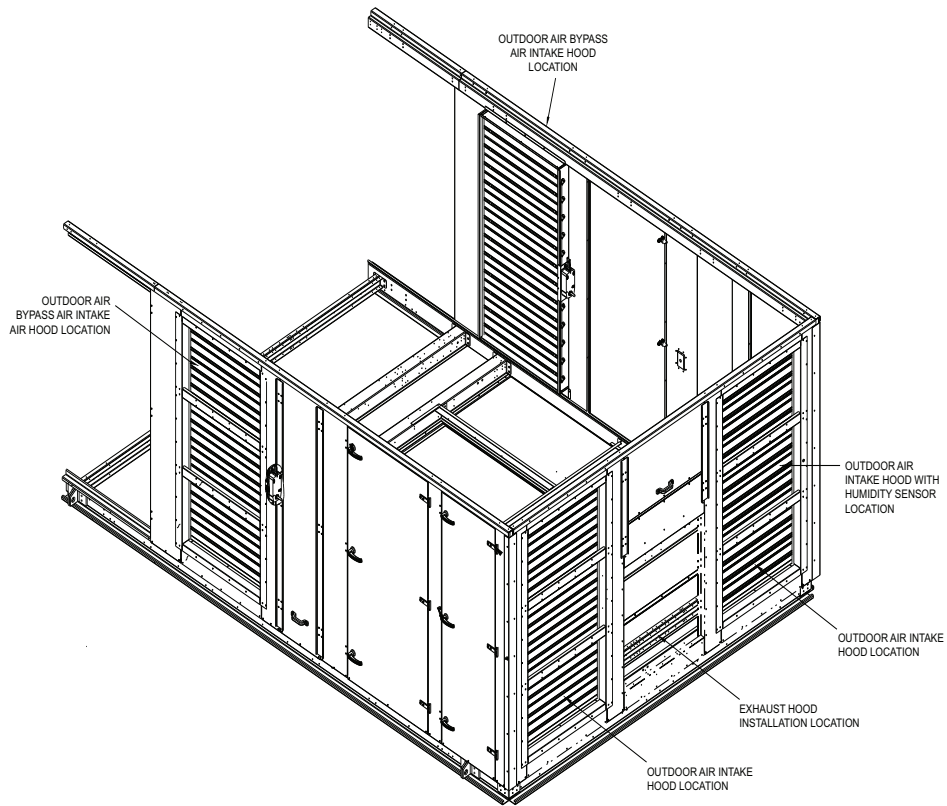

Fig. 28 — ERV Hood Locations
- f. Attach hood to end of unit. See Fig. 28.
6. Install remaining hoods on unit. See Fig. 28 for location.
4. Install hoods on unit. See Fig. 28 for location.